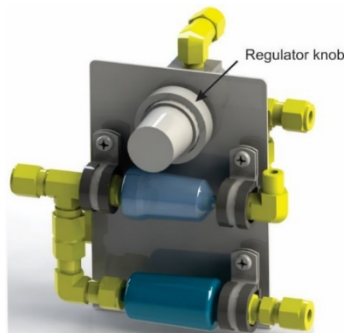

Figure 4-4: Output Pressure Regulator Assembly
3. Pull the regulator knob (Figure 4-4) outward to unlock it, and turn the knob only slightly, allowing time for the Output Flow value to change and stabilize before continuing to adjust the regulator until the desired flow is achieved.